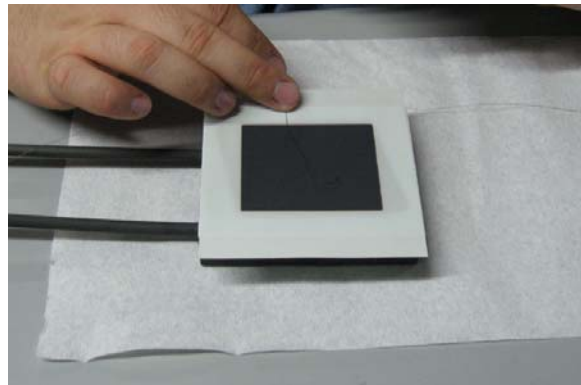

Figure 10
11. Bend small hook into platinum second voltage wire and place in the middle of the painted cathode active area (Figure 10)